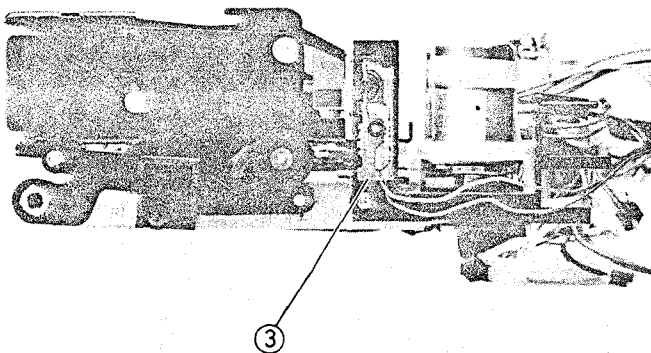

Fig. 2-66 Take-up End Sensor Removal
3. Release one (1) tab and remove the take-up end sensor. (See Fig. 2-66)